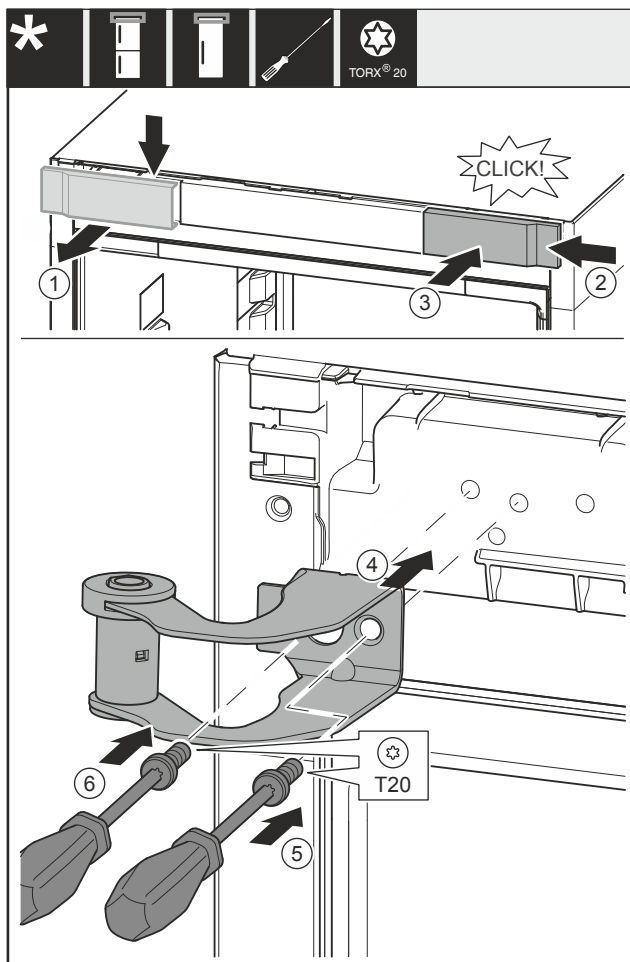

Fig. 12
- ▶ Remove the cover Fig. 12 (1) from above towards the front.
- ▶ Turn the cover Fig. 12 (2) by 180° and attach to the other side from the right.
- ▶ Engage the cover Fig. 12 (3).
- ▶ Place the top swap bearing block Fig. 12 (4).
- ▶ Screw the screw Fig. 12 (5) tight.
- ▶ Screw the screw Fig. 12 (6) tight.